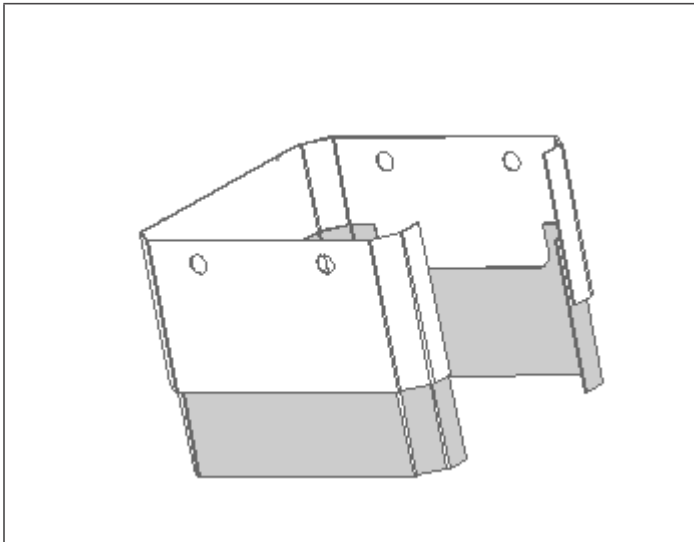

FIGURE 21: LEG COVERS
2. Place the smaller 'sleeve', with cutouts facing up, inside the larger sleeve with the openings of both stacked and facing the back (Figure 21).
1. Remove the leg covers by sliding the top, outer sleeve of the leg covers off the extruded dimples of the cast aluminum base (see Figure 21 on page 25).
5. Mount the Toe Kick Panel on both sides of the unit into the extruded dimples using the (4) T-20 Torx drill point screws provided.